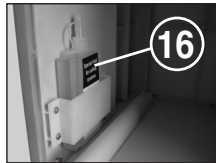

fig. 6
- Pull out receptacle (14), take oil receptacle (16) (Fig. 6) out of the holder in the lower cabinet and push receptacle in again.
- Spread some oil on a sheet of paper and then feed it into the cutting mechanism through the paper feed slot (12).